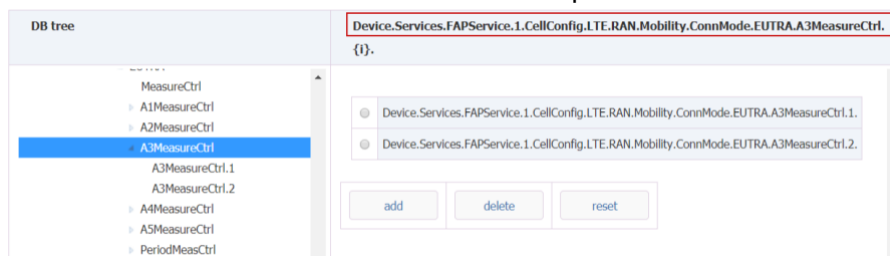

Figure 4-48 A3 event
1. LTE same-frequency/different-frequency switching is triggered by A3 events. As shown in figure 4-48, there are two groups of configurations of A3 events, which are used in different scenarios: